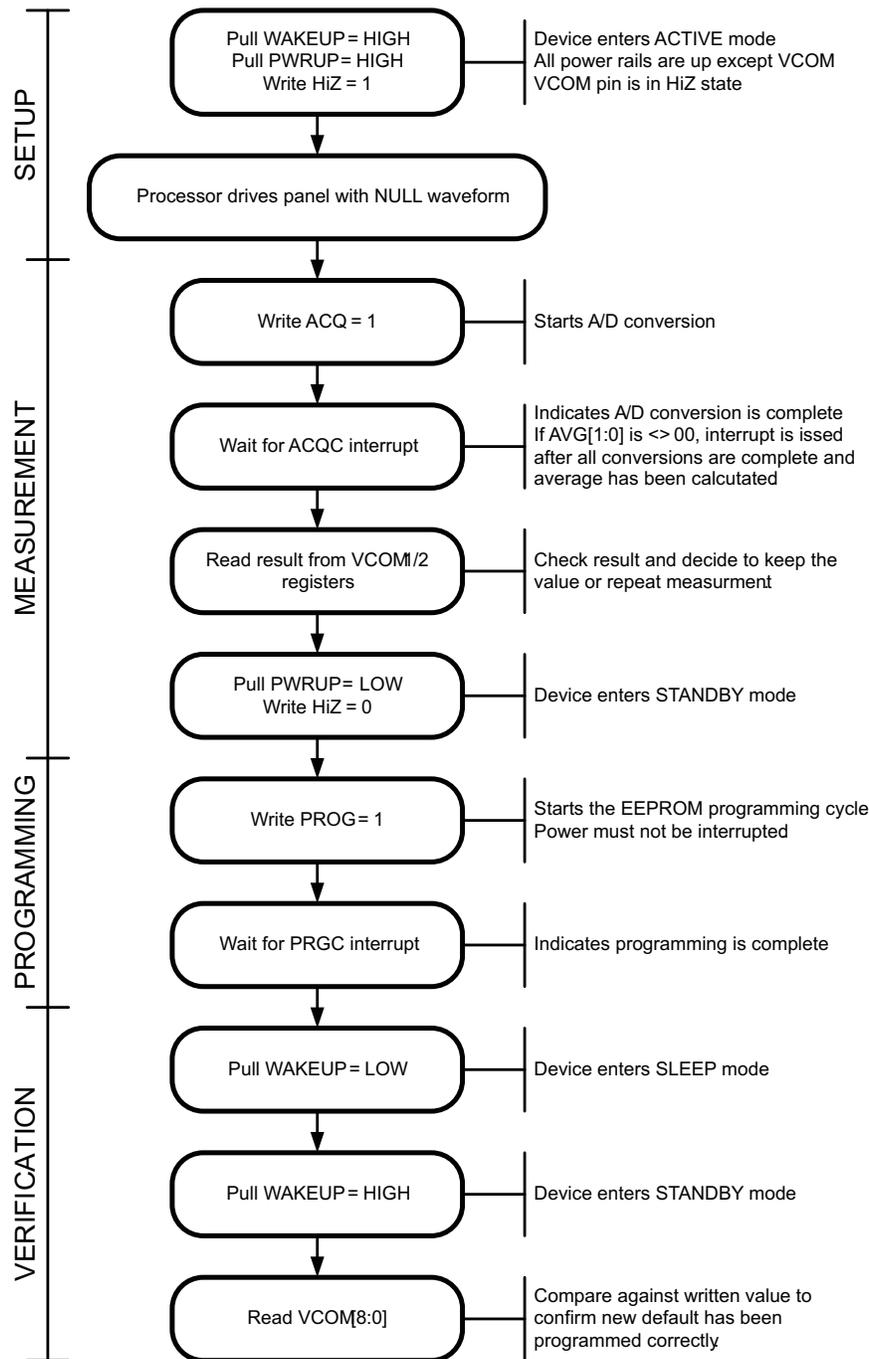

Figure 22. VCOM Calibration Flow
In STANDBY all internal support circuitry is powered up and the device is ready to accept commands through the I2C interface but none of the power rails are enabled. The device enters STANDBY mode when the WAKEUP pin is pulled high and either the PWRUP pin is pulled low or the STANDBY bit is set. The device also enters STANDBY mode if input undervoltage lockout (UVLO), positive boost undervoltage (VB\_UV), or inverting buck-boost undervoltage (VN\_UV) is detected, thermal shutdown occurs, or the PROG bit is set (see Figure 22)
WAKEUP pin is high and STANDBY bit is set or PWRUP pin is pulled low (falling edge). Rails are shut down in the order defined by DWNSEQx registers. Device also enters STANDBY in the event of thermal shutdown (TSD), undervoltage lockout (UVLO), positive boost or inverting buck-boost undervoltage (UV), VCOM fault (VCOMF), or when the PROG bit is set (see Figure 22).